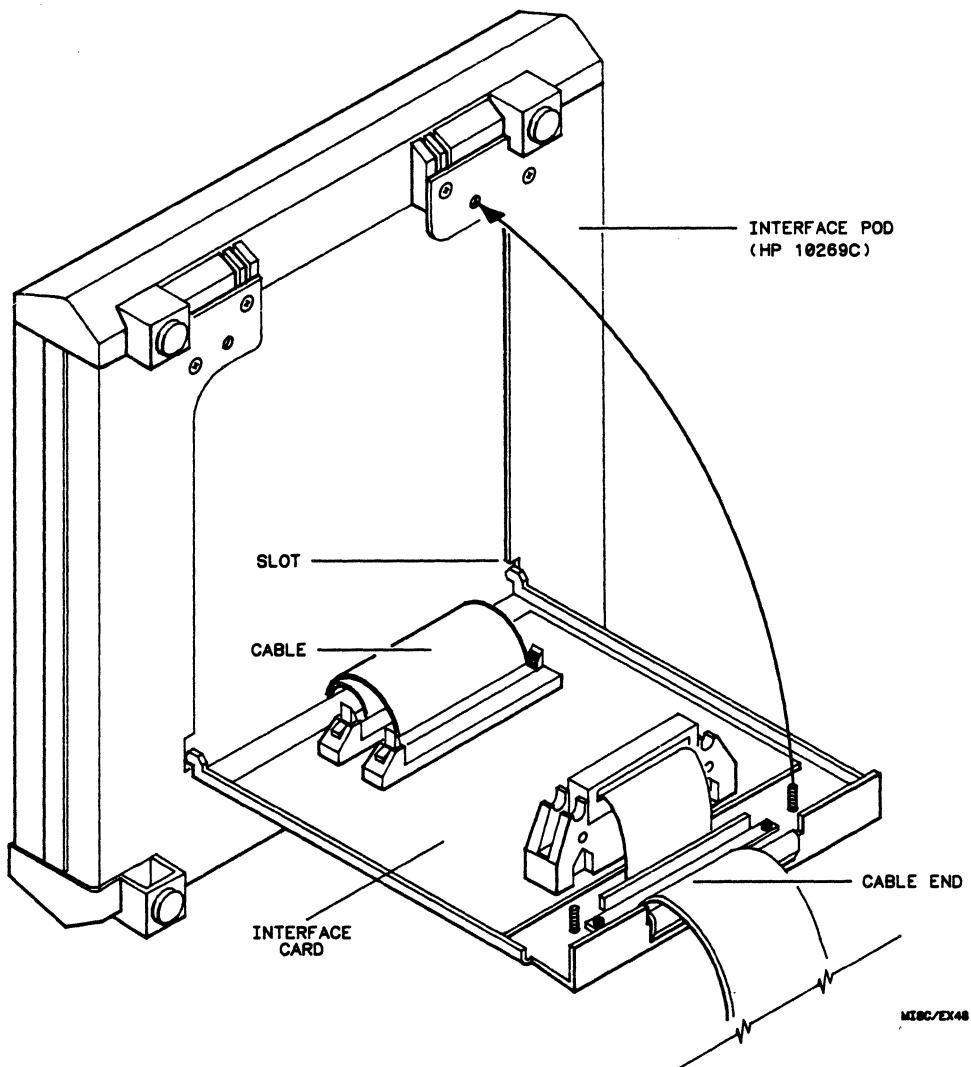

Figure 3. Mounting the HP 10308B on the HP 10269C
1. Install the HP 10308B Interface Module Card on the underside of the HP 10269C General Purpose Probe Interface Pod (see figure 3).